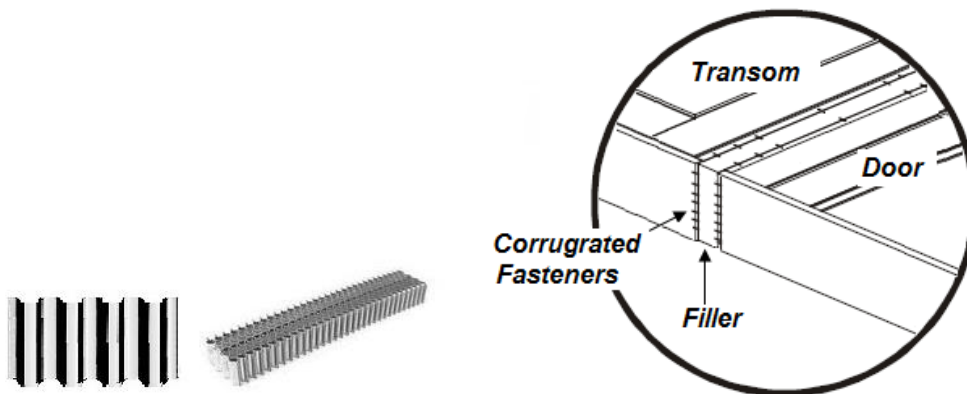

Figure 5
- Nail the corrugated fasteners provided then into the end joint between the door and transom as shown in figure 5 and ensuring that the fastener is across the center of the mull.